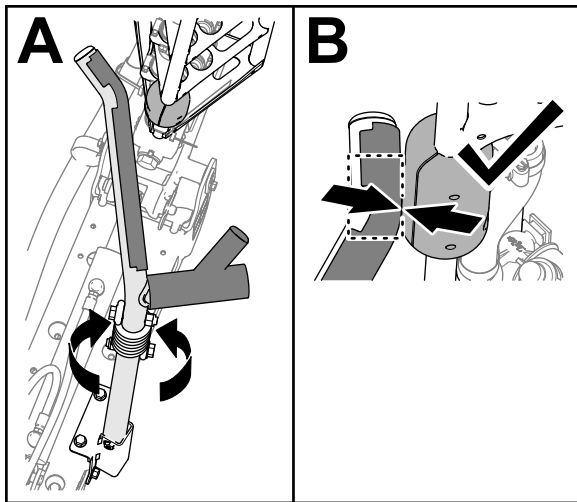

Figure 117
4. Rotate the cradle assembly until the bend in the cradle tube aligns with the slide block on the top tube of the outer boom (Figure 117)
- Note:** The blocks must contact the cradle at the bend in the upper cradle tube (Figure 117).